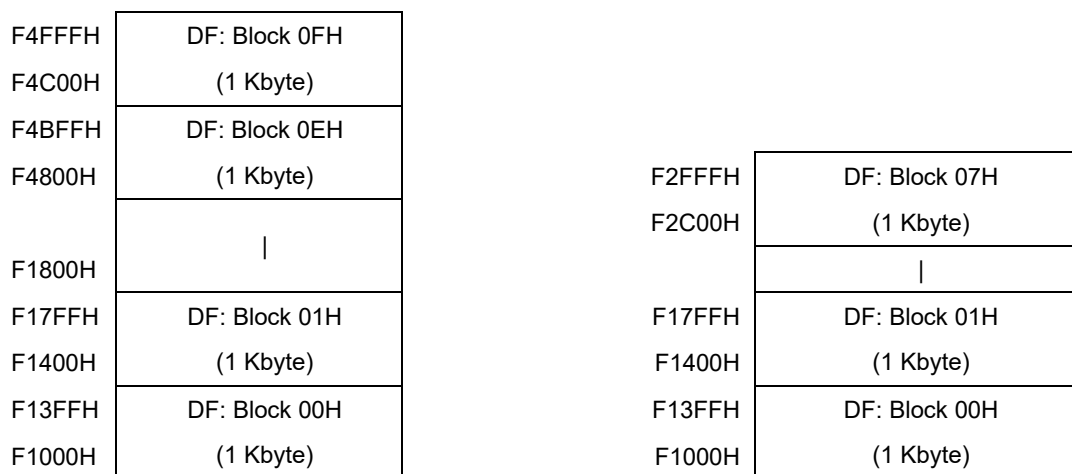

Figure 2-6 Blocks in the Data Flash Memory
Figure 2-6 shows the allocation of blocks in the data flash memory (DF).
(1) RL78/ F24 (Data flash memory: 16 Kbytes)
(2) RL78/ F23 (Data flash memory: 8 Kbytes)